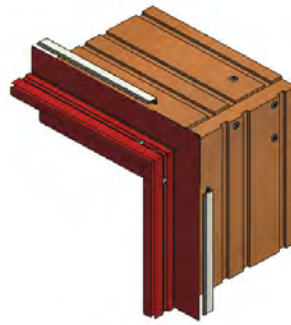

Figure 1a
③ Frame Assembly (Continued)
- a. Place accessory retainer clips (2) in universal frame groove. Apply one clip 25mm from each corner and move inward. Applying additional clips at a maximum spacing of 500mm. (Figure 1a & 1b)